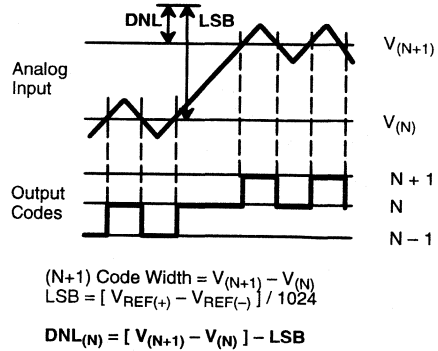
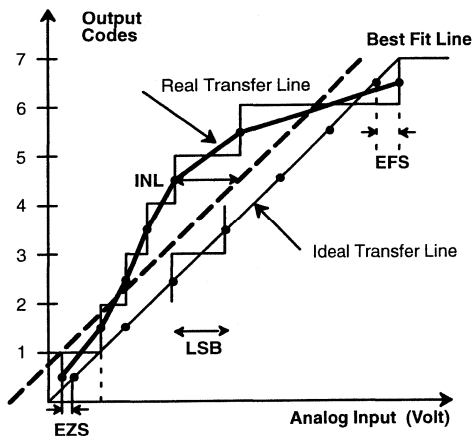

Figure 5. DNL Measurement on Production Tester
Figure 7. INL Error Calculation (Exaggerated for Visualization)
- 2 Tester measures code transition voltages by dithering the voltage of the analog input (V_{IN}). The difference between the measured code width and the ideal value (V_{REF}/1024) is the DNL error (see Figure 5). The INL error is the maximum distance (in LSBs) from the best fit line to any transition voltage (See Figure 7).
Figure 7. gives a visual definition of the INL error. The chart shows a 3 bit converter transfer curve with greatly exaggerated DNL errors to show the deviation of the real transfer curve from the ideal one.